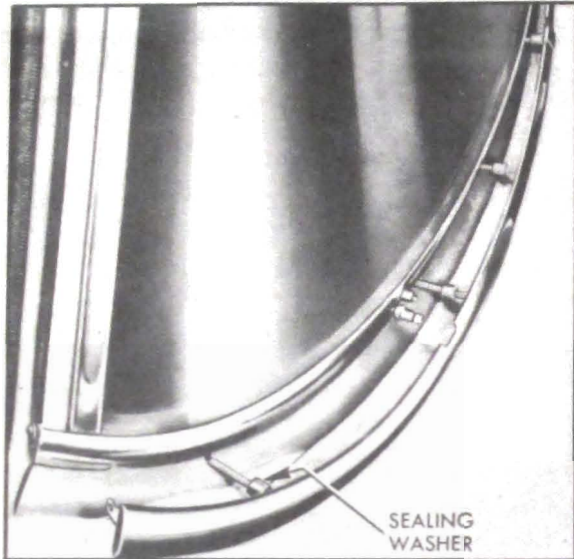

Figure 13-18—Installation of Belt Molding with Retainers and Sealing Washers
4. Before installing belt molding, place sealing washer on retainer bolts, then apply 3-M Weatherstrip Adhesive to bolt holes and to bolts around the sealing washers. See figure 13-18.